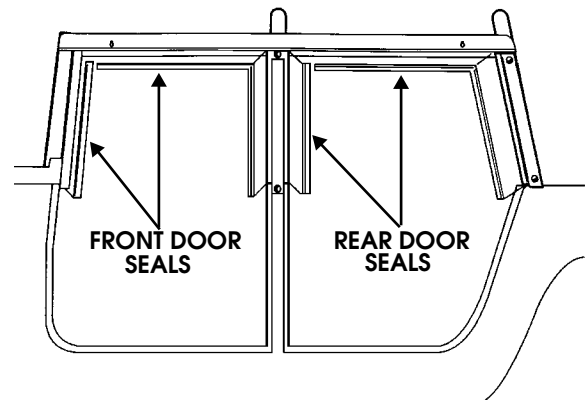

Figure 10-136: Door Seal Removal
9. Remove front and rear door seals (Figure 10-136).